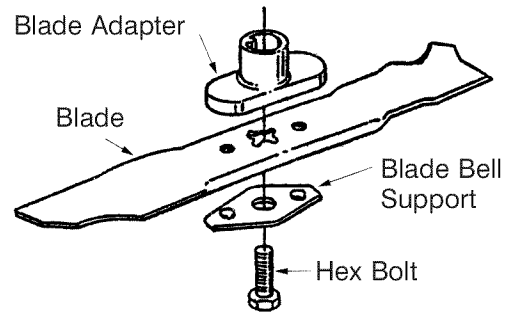

Figure 13
- Remove the bolt and blade support which holds the blade and adapter to the engine crankshaft. Remove the blade and adapter from the crankshaft. See Figure 13.
Before reassembling the blade and the blade adapter to the unit, lubricate the engine crankshaft and the inner surface of the blade adapter with light oil. Install the blade adapter on the crankshaft with the "star" away from the engine. Refer to Figure 13. Place the blade with the side marked bottom (or with part number) facing away from the adapter. Align the blade bell support over the blade with the tabs in the holes of the blade and insert the hex bolt. Tighten the hex bolt to the torque listed below: